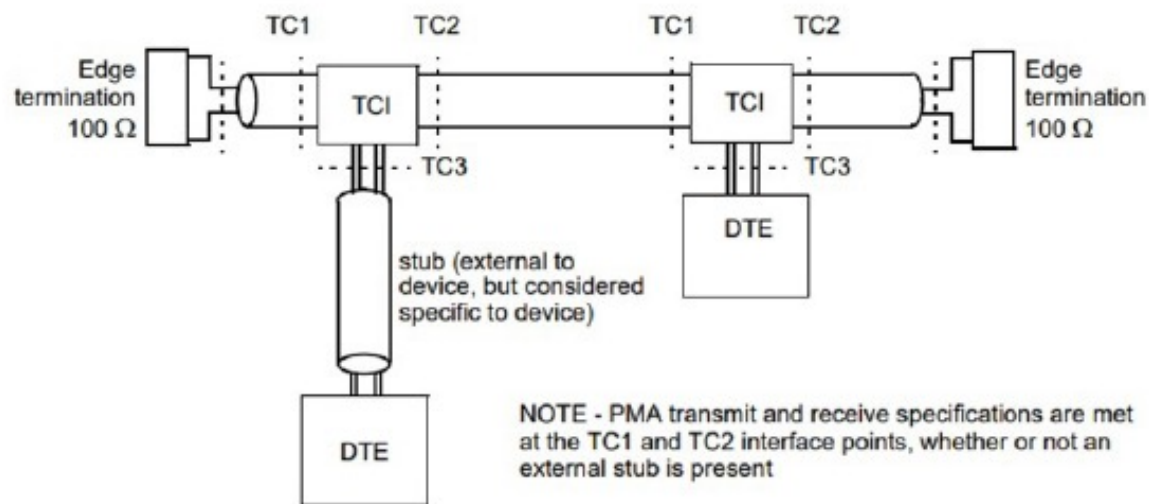

Figure 169-1—Mixing segment and reference points
- Mixing segment figure 169-1
Mixing segment figure 169-1